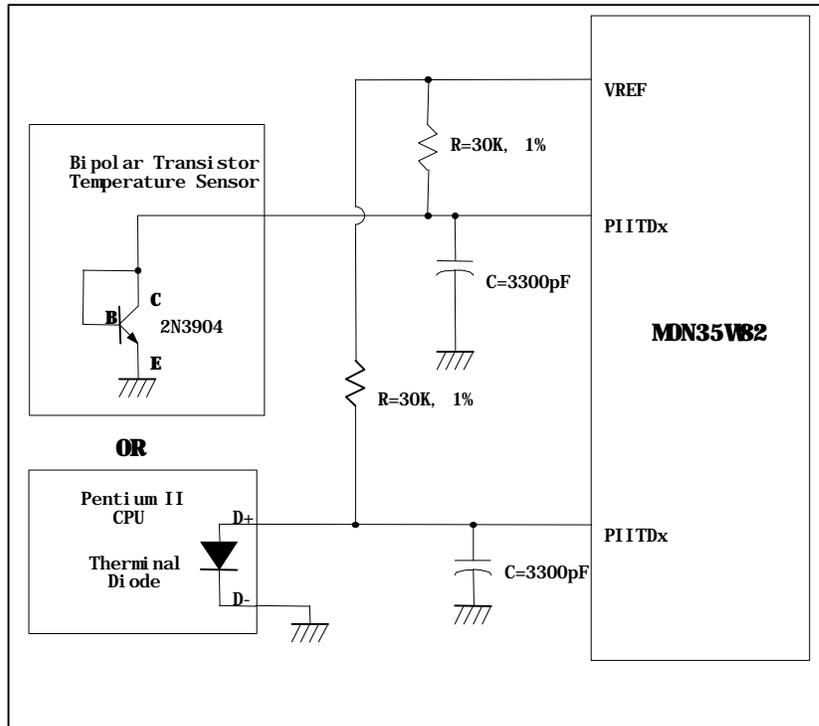

FIGURE 11
The MON35W82 can interface to the Pentium II™ (Deschutes) thermal diode interface or a 2N3904 transistor. The circuit connection is shown in Figure 11. The Pentium II™ D- pin is connected to ground (GND) and the D+ pin is connected to the PII1 or PII2 pin of the MON35W82. A 30K-ohm resistor must be connected from the PIIx pin to the VREF pin to supply the diode bias current and a bypass capacitor  $C=3300\text{pF}$  must be added to filter the high frequency noise. If a 2N3904 transistor is used, the Base (B) and Collector (C) must be tied together to act as a thermal diode.